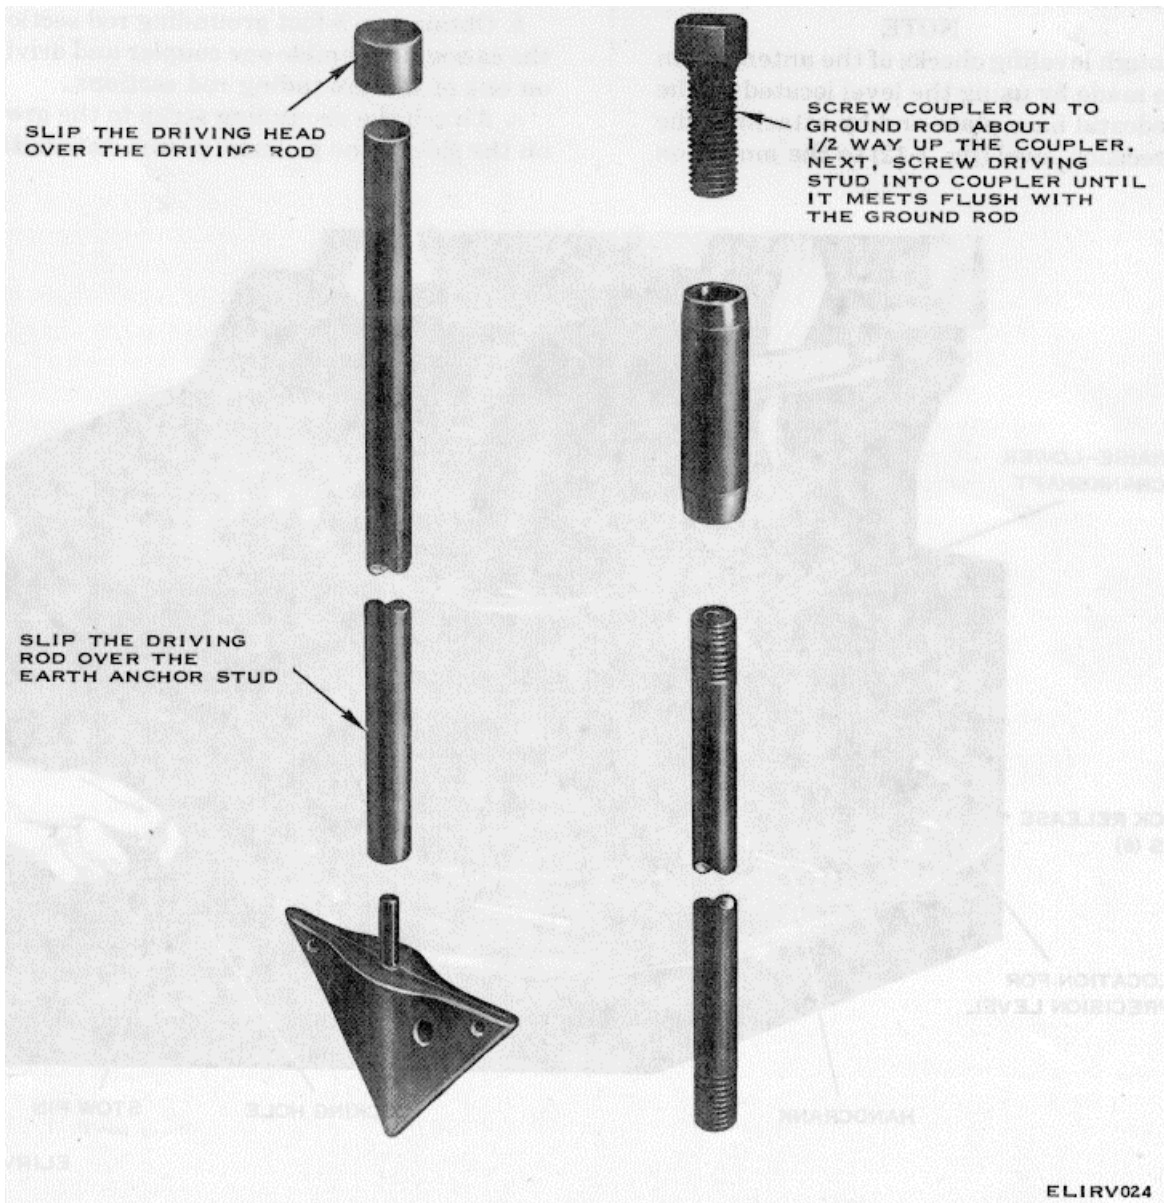

Figure 2-10. Typical ground rod and earth anchor driving hardware.
(fig. 2-10)
b. Obtain two 5-foot grounding rod sections and two lightning rod sections from the carrier. Assemble one coupler and driving stud on one of the grounding rod sections (fig. 2-10).